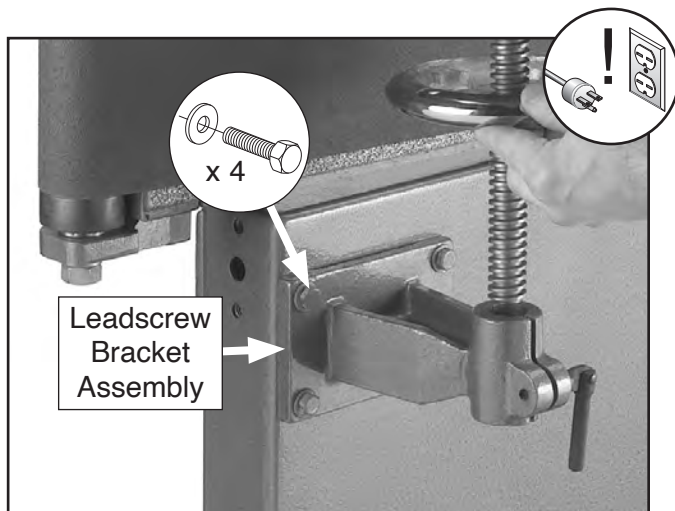

Figure 22. Leadscrew bracket assembly attached to stand.
2. Attach leadscrew bracket assembly to stand with (4) pre-installed hex bolts and washers shown in **Figure 22**.